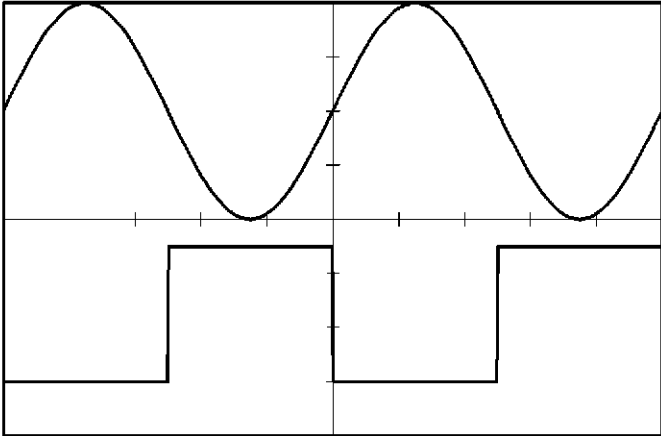

Figure 8-6 Waveform Verification for the Negative Sequencer Marker
- 18. Verify that the marker, which is high in a period in which the output signal is negative, is output as shown in Figure 8-6. (Verification of negative marker polarity)